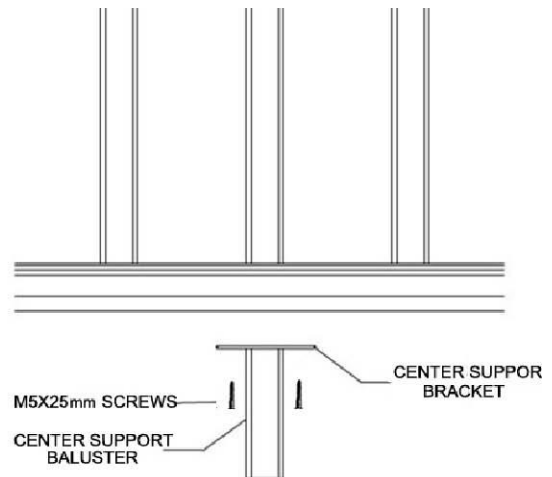

FIGURE 11
9. Insert the support section into bottom rail while marking the 2 brackets hole, and then fasten the block to bottom rail using the M5\*25mm stainless screws through pre-drilling holes. As shown in Figure 11.